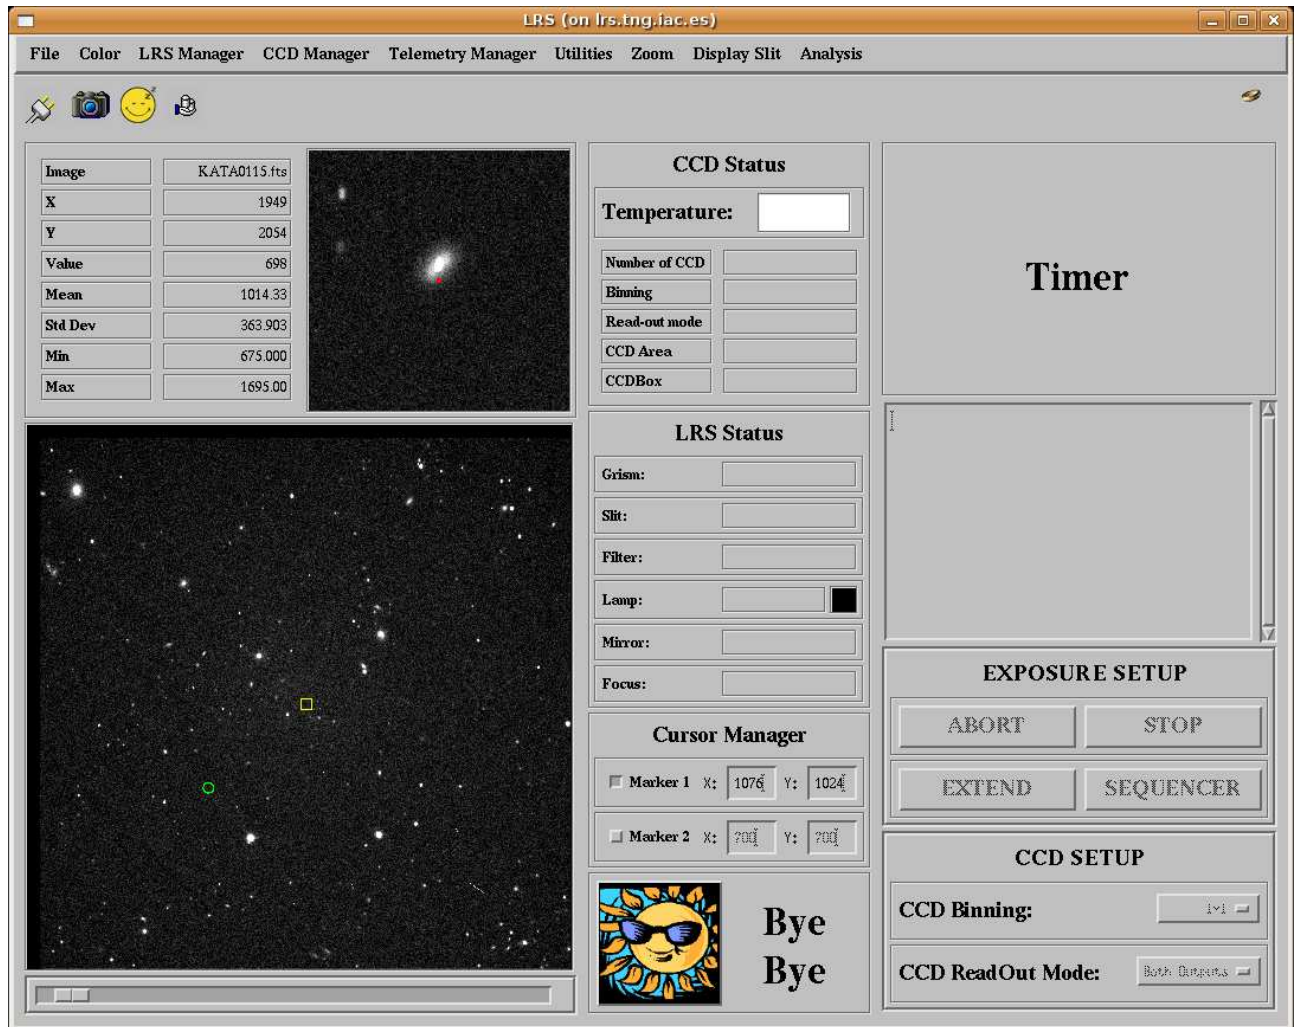
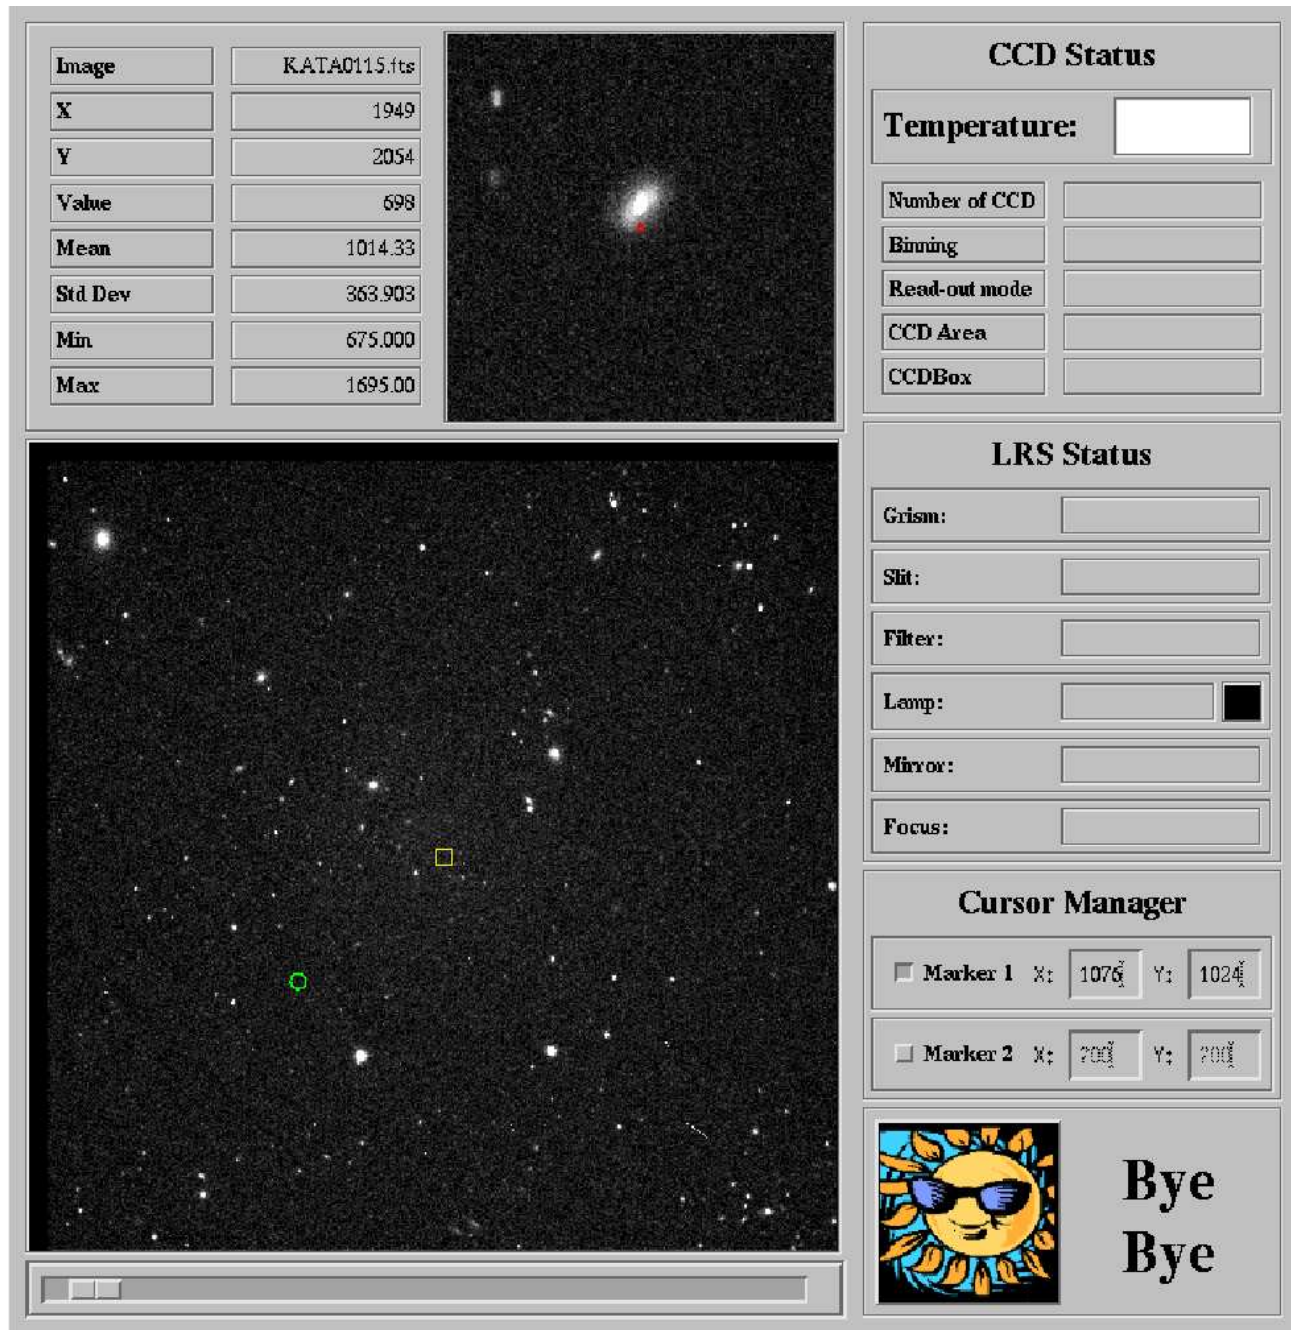

Figure 6: *The DOLORES GUI.*
Figure 7: *Image Display panel.*
The astronomer will send commands to DOLORES through the **Graphical User Interface** program. To start it up, double click the "Lrs Instrument GUI" icon (see fig. 7) on the *WSASTRO* PC desktop. The LRS GUI interface will pop up. See fig 6 in the next section. To be able to start
- h) Open the LRS GUI with a double click on the "*LRS Instrument GUI*" icon. See figure 6.
The "**Main Panel**", see Fig. 6, gives the observer the possibility to display the images, to do a quick analysis of the raw data and to check the present instrument configuration. It is organized in the following sub-panels: